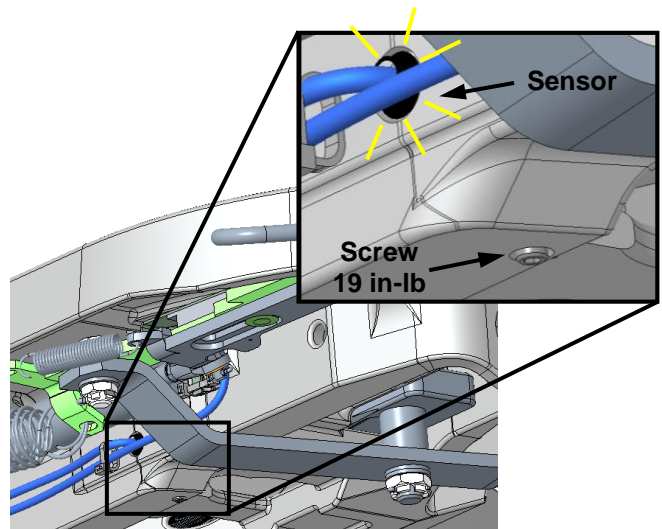

Figure 2
2. With ignition key on, the sensor should be glowing where the wire enters (see figure 2).
5. Loosen the screw securing the Kingpin Sensor and remove the sensor (see figure 2).